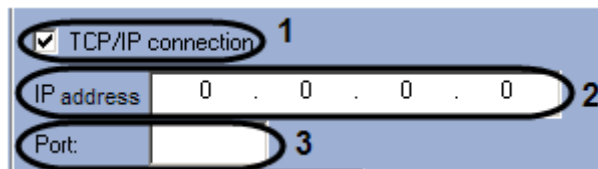

Fig.3.2-4 Configuration of the AAN controller's Ethernet connection
- 4.1 Check the **TCP/IP connection** checkbox (Fig.3.2-4).
- 4.2 In the **IP address** field, enter the AAN controller's IP address (see Fig.3.2-4, 2).
- 4.3 Enter the AAN controller's port number in the **Port** field (see Fig.3.2-4, 3).